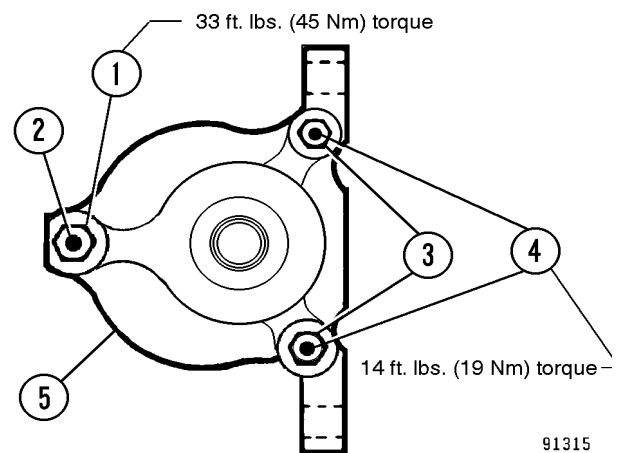

FIGURE 8-15. TIE ROD NUT TORQUE
5. Install tie rods. Install tie rod nuts. Tighten tie rod nuts to the torques shown in Figure 8-15.